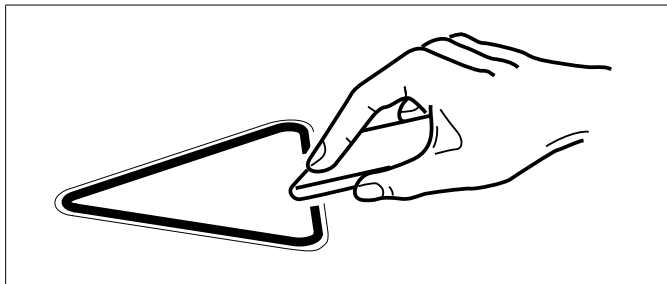

fig. 5 Applying pressure to safety label
5. Apply pressure to the safety label with a spatula or roller, so that it is level with the machine surface, without any bubbles; see fig. 5.